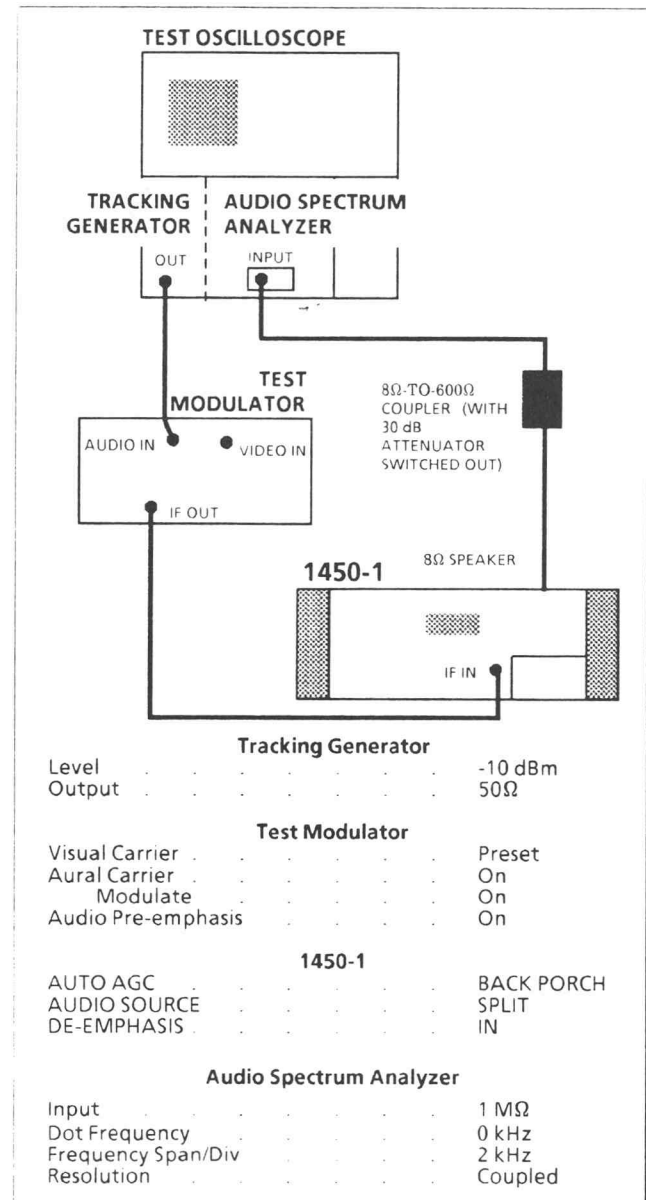

Fig. 4-34. Setup for checking audio de-emphasis frequency response.
- a. Set the test equipment controls as described in Fig. 4-34.
- d. Connect the equipment as shown in Fig. 4-34.